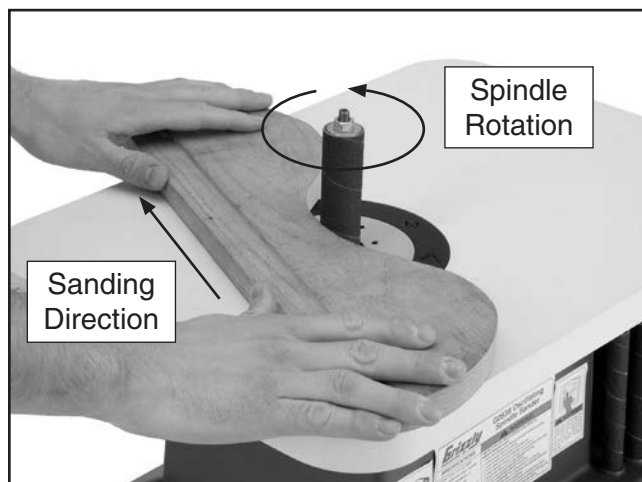

**Figure 9.** Sleeve installation order.
7. Install the desired rubber sanding drum on the spindle shaft, and install the matching sanding sleeve on the drum as shown in **Figure 9**.